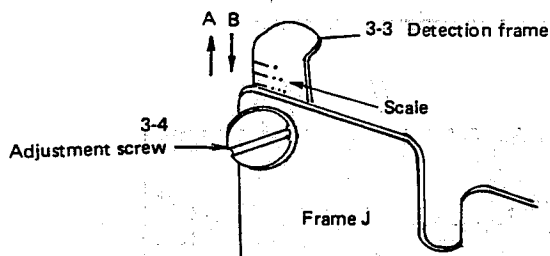

Fig. 18-7
- ① Mount the unit on the Frame J side by the adjustment screw (3-4).
- ② Adjustment:
- The detecting position can be adjusted in five steps. This is performed by moving the position of the detection frame as indicated by arrows A and B in Fig. 18-7.